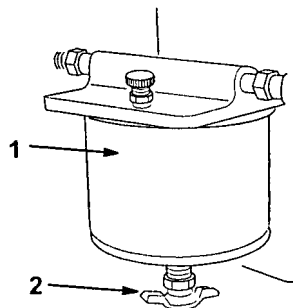

Figure 6
3. Turn the drain valve until the water runs out of the filter (Fig. 6).